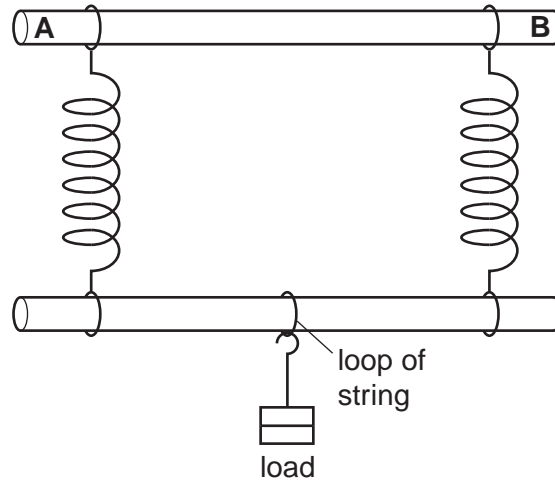

Fig. 1.2
- (vi) Loop of string to support load as shown in Fig. 1.2.
2. The second wooden rod should be similar to the first and capable of supporting the same load as the first rod. The springs should be attached to the second rod as shown in Fig. 1.2.